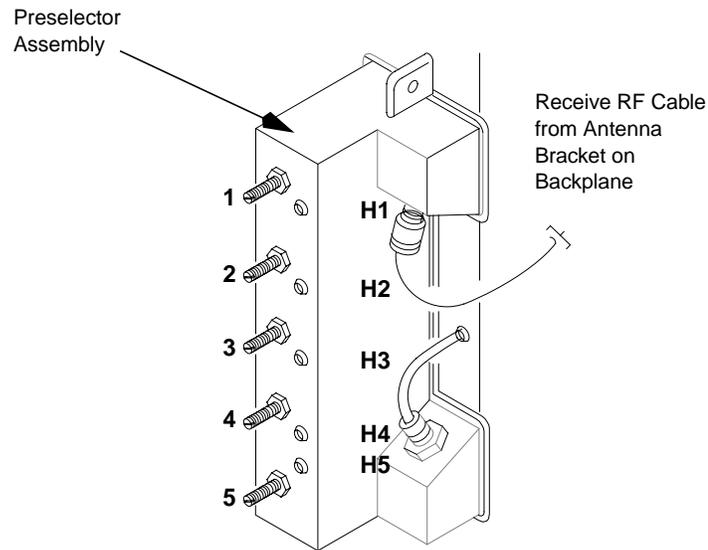

Figure E-5: Preselector Assembly in a VHF, 280 MHz, or UHF Module
3. Connect the receive RF module cable to the mini-UHF connector on the station preselector assembly (see Figure E-5).